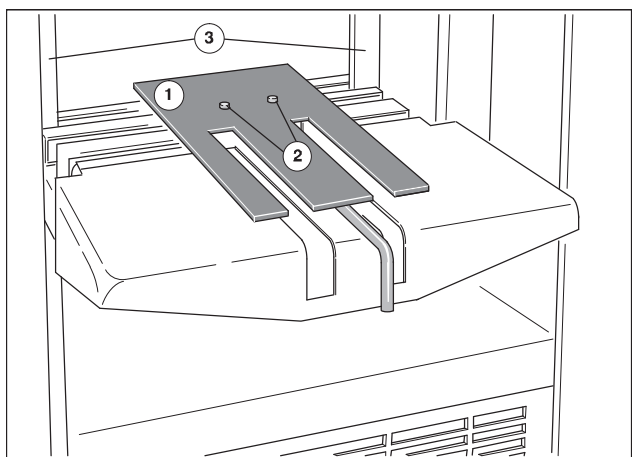

Fig. 46 Inserting the pile board
1. Place the pile board matching the sheet size (Fig. 46/1) on the inclinable feed table and insert the alignment pins (Fig. 46/2) into the boreholes. The pile board must be at least 10 mm narrower than the sheet size being processed.
2. Position an envelope at the center of the pile board and set the lateral pile guide rails (Fig. 46/3).